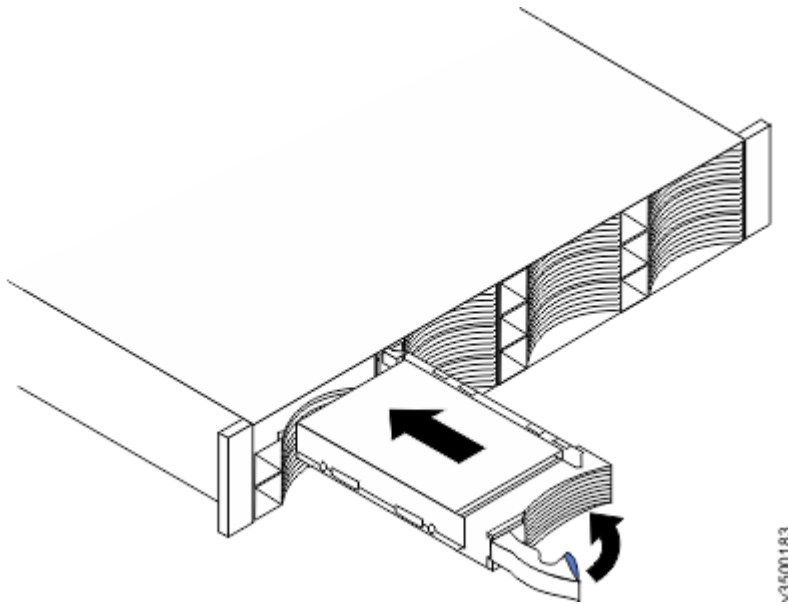

Figure 127. Installing and locking a 3.5-inch drive into its slot
13. Align the drive assembly with the guide rails in the bay (see Figure 127 on page 164).